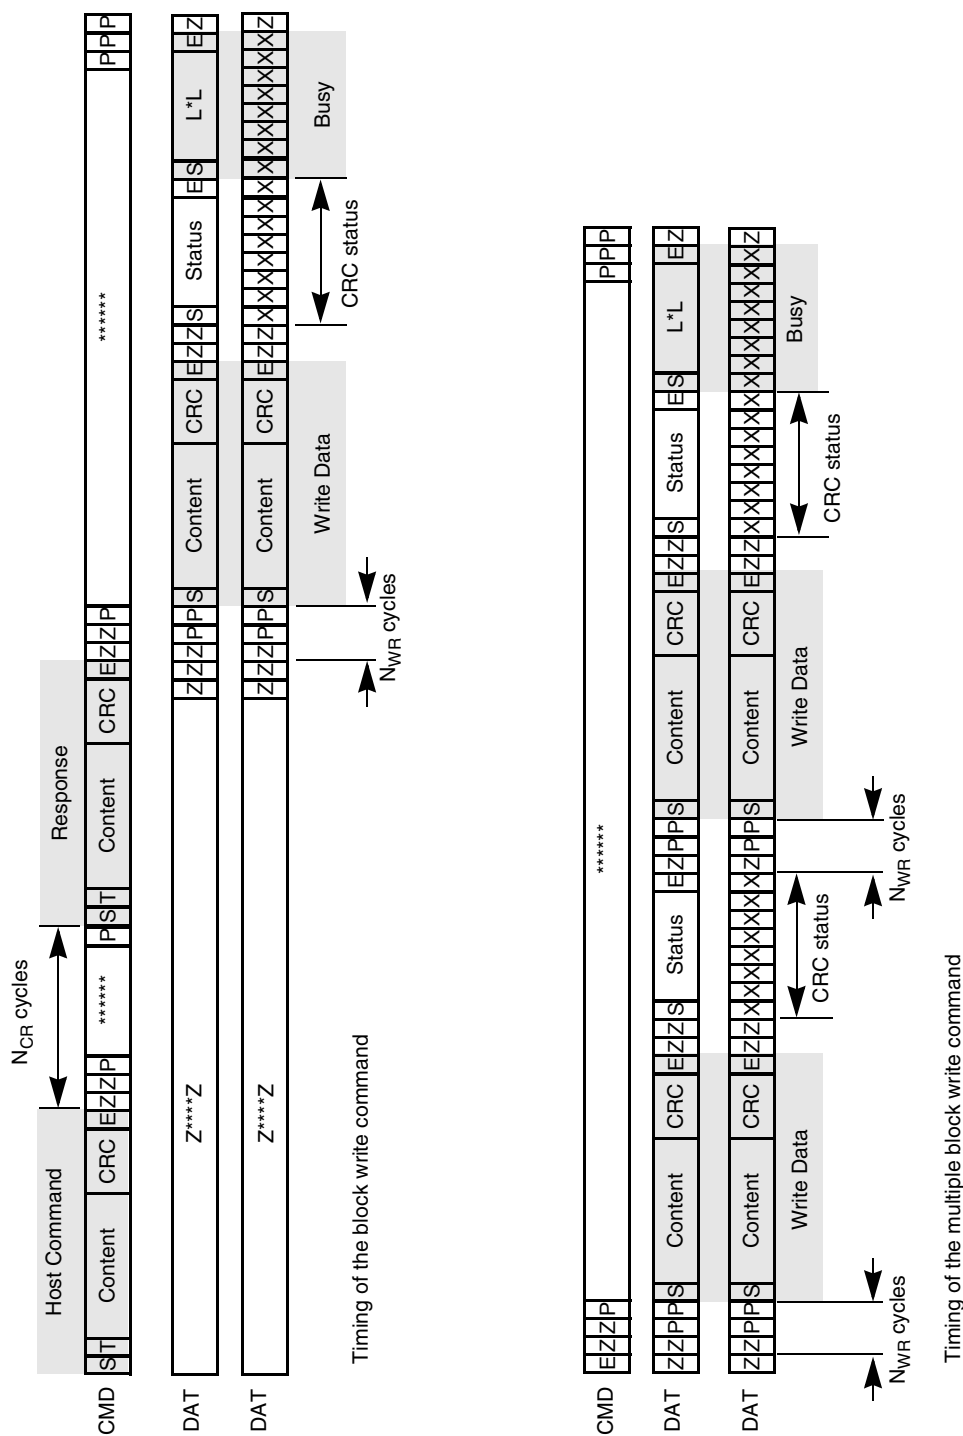

Figure 29. Timing Diagrams at Data Write
Figure 29 shows the basic write operation timing. As with the read operation, after the card response, the data transfer starts after  $N_{WR}$  cycles. The data is suffixed with CRC check bits to allow the card to check for transmission errors. The card sends back the CRC check result as a CC status token on the data line. If there was a transmission error, the card sends a negative CRC status (101); otherwise, a positive CRC status (010) is returned. The card expects a continuous flow of data blocks if it is configured to multiple block mode, with the flow terminated by a stop transmission command.